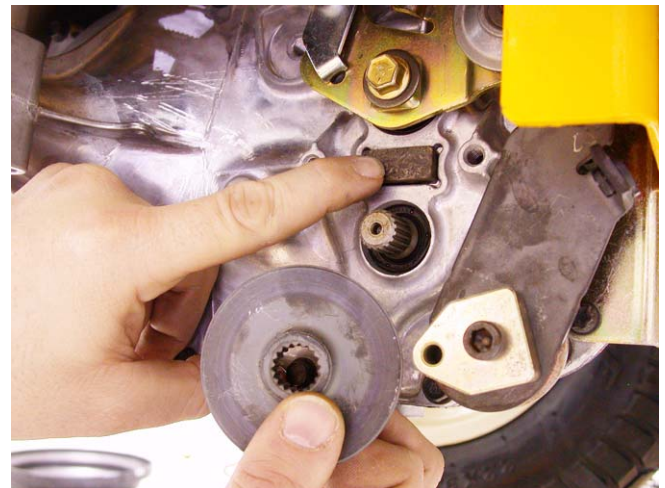

Figure 26.21
26.21. The brake rotor should slide-off of the splined shaft, providing access to the fixed brake pad. See Figure 26.21.